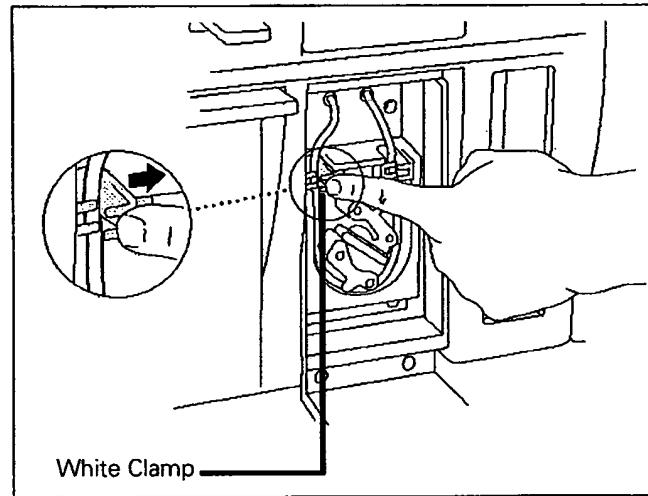

Figure 7.7
2. Open the white clamps to release tubing on both sides. See Figure 7.7.